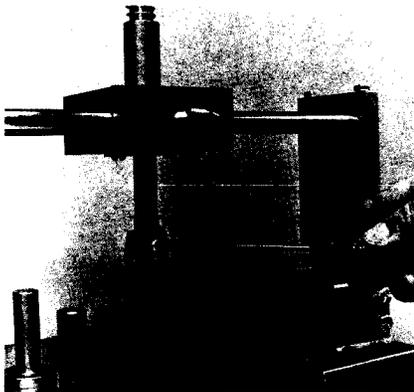

Figure 7 — Tightening Retaining Screw
6.02 Slide blade into slot in lower end of vertical shaft, insert and tighten retaining screw. (Fig. 7).